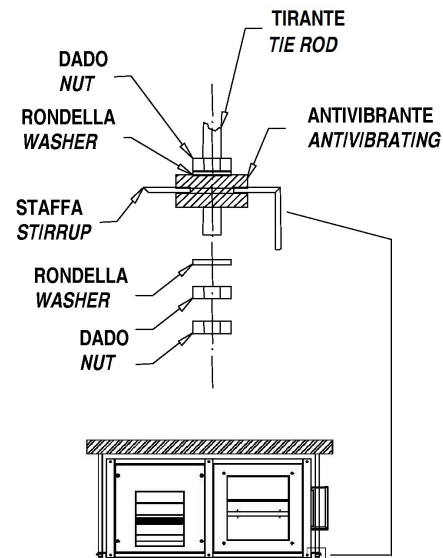

Fig.6
- 1) Eseguire la foratura a soffitto e fissare i tiranti filettati M8 come indicato in figura (Fig. 6).
- 1) Drill the ceiling and fix M8 threaded tie-rods, as indicated in the figure (Fig. 6).